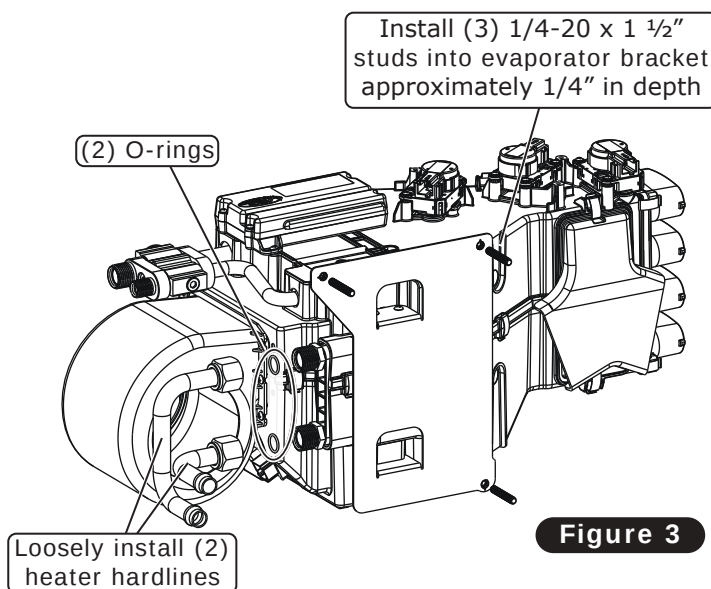

Figure 3
6. Loosely install the (2) heater hardlines with properly lubricated O-rings (See Lubricating O-rings, Page 14 and Figure 3, below). **NOTE: When removing the caps from the sub case, be careful! The sub case is shipped under pressure.**
7. Install (3) 1/4-20 x 1 1/2" studs into the evaporator bracket approximately 1/4" in depth (See Figure 3, below).